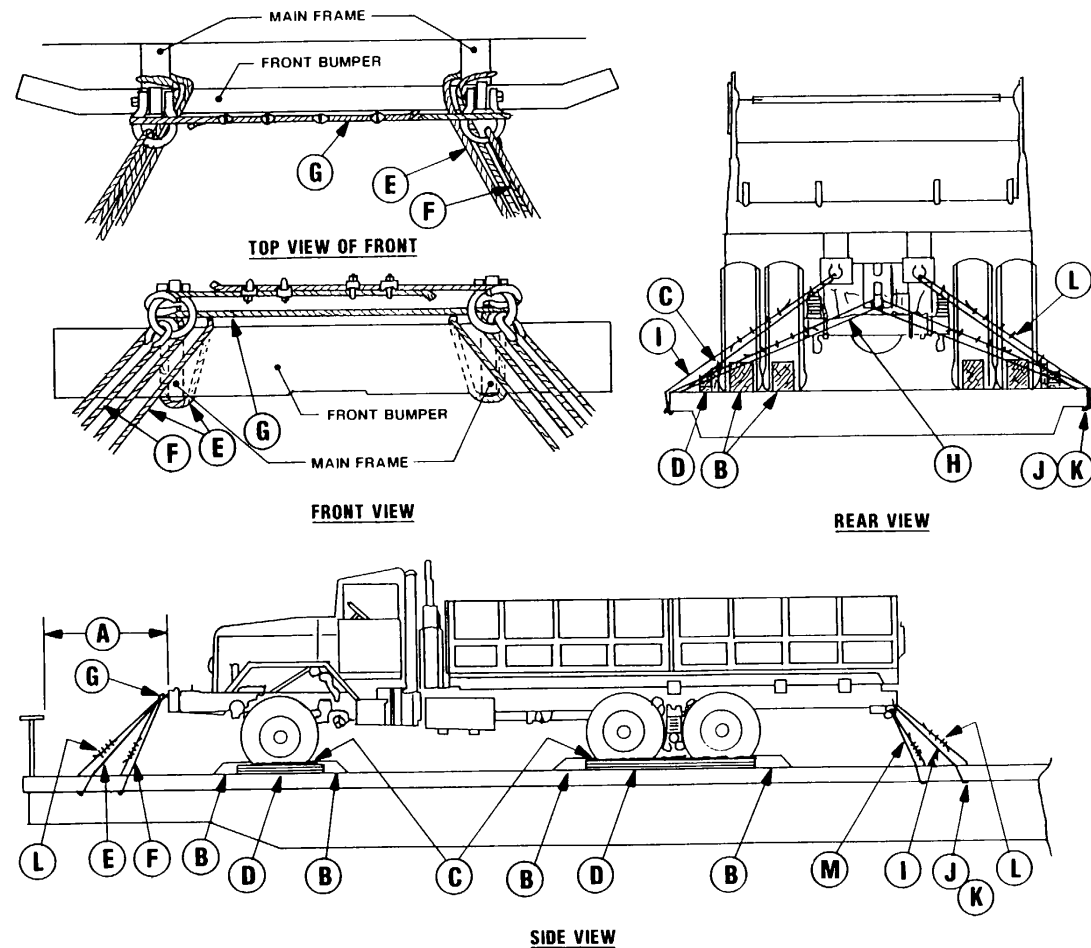

Figure 7-3. Blocking and tiedown of the M927, M942, M931, or M932 5-ton trucks on CONUS general-purpose flatcars.
c. Figure 7-3 shows the typical loading of the PATRIOT system 5-ton trucks or truck-tractors onto general-purpose flatcars.